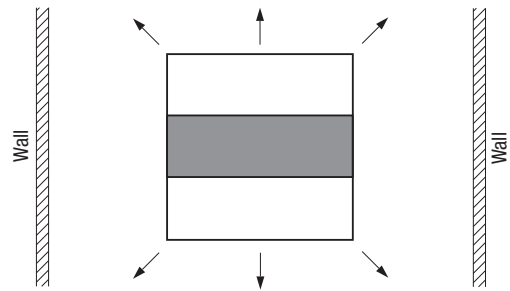

Figure 12: Segment cover for narrow spaces, for instance
c) In narrow spaces (e.g. corridors) we recommend a segment cover as shown in Figure 12.